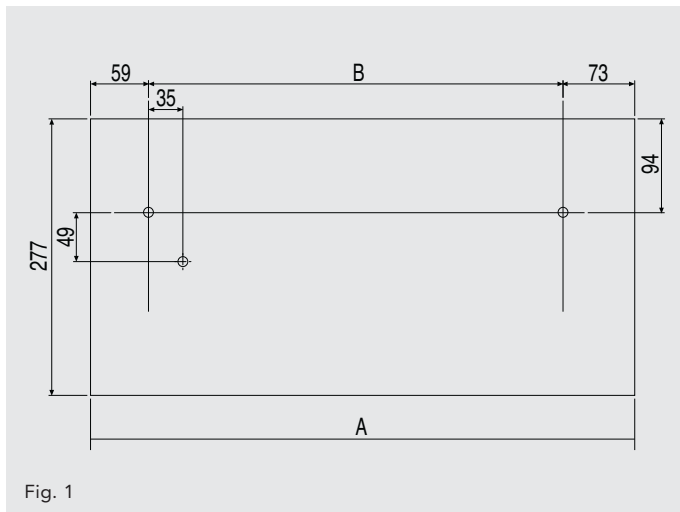

Fig. 1
- Using the fixing dimensions below (see fig. 1), mark the fixing hole positions on the wall.